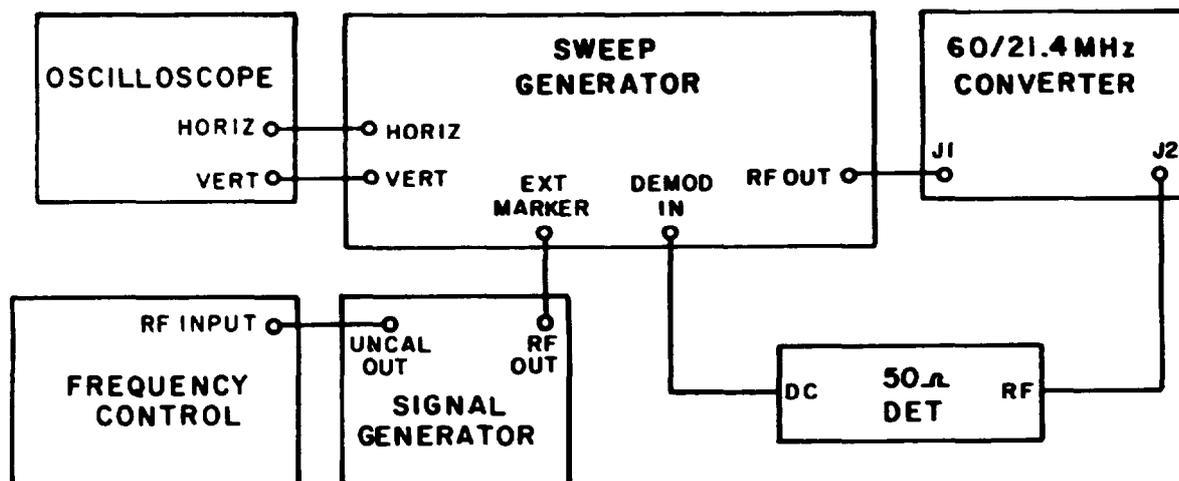
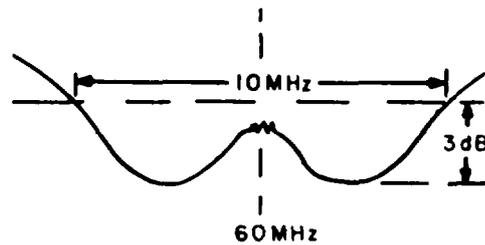

Figure 4-4. Test Setup, 60MHz/21.4 MHz Converter Performance Test
Figure 4-5. Typical Response, 60 MHz to 21.4 MHz Converter
- (1) Connect the equipments shown in Figure 4-4.
- (2) Set the oscilloscope controls to view a sweep response. Set the vertical sensitivity to view a 60 mV signal and a 15 MHz sweep width. Set the level to -10 dBm.
- (3) Set the signal generator controls for a 60 MHz CW output at a level sufficient to produce a marker.
- (4) Set the sweep generator controls for a 60 MHz center frequency and a 15 MHz sweep width. Set the level to -10 dBm.
- (5) Refer to Figure 4-5 for a typical response. Bandwidth should be approximately 10 MHz at 3 dB.
- (6) To measure the gain, first ensure that the sweep generator output level is still at -10 dBm. Then note the response level.
- (7) Connect the RF output of the sweep generator directly to the RF jack of the 50 ohm detectors. Maintain the same approximate cable lengths.